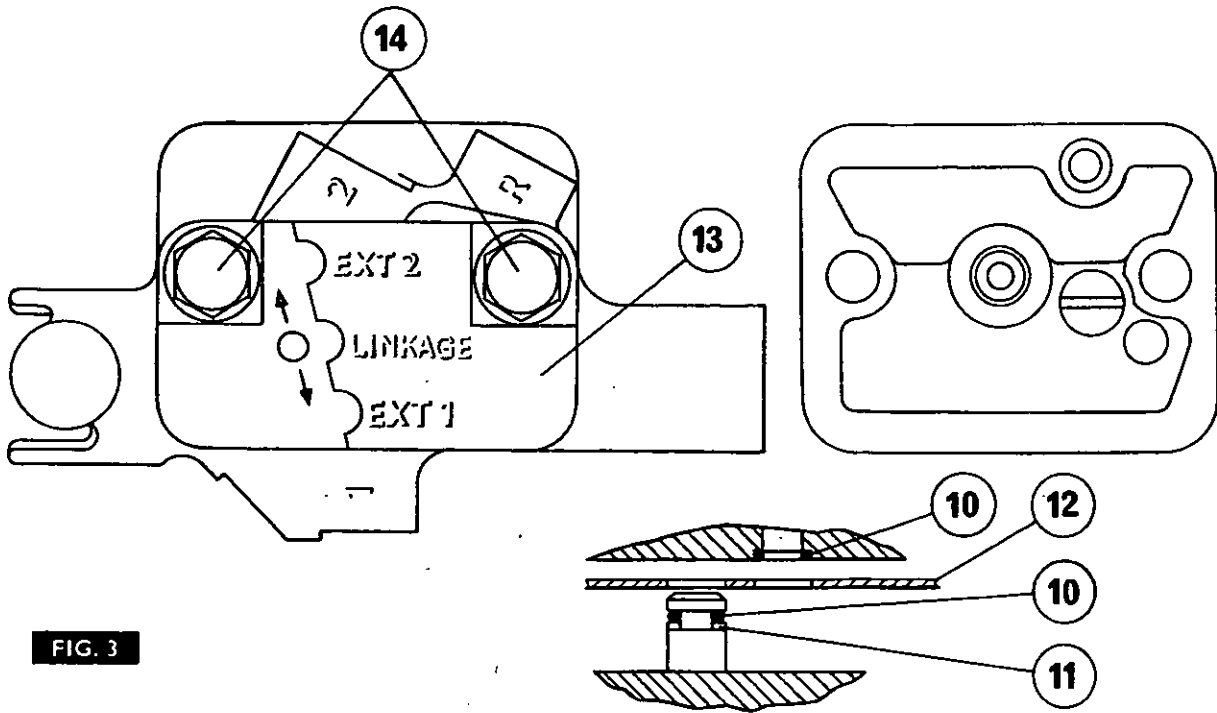

FIG. 3
3. Fig. 3. Remove the old 'O' ring and back-up washer (10 and 11 respectively), from the standpipe.
4. Fit a new 'O' ring (10) and back-up washer (11) to the standpipe.
5. Clean the bottom face of the selector valve, then fit an 'O' ring (10) to the shallow recess in the bottom face of the selector valve.
6. Place the selector valve gasket (12) in position, making sure that all of the holes are clear, then locate the selector valve on the standpipe.
7. Fit the instruction plate (13), then fit the two special  $\frac{7}{8}$  UNC x 73 mm ( $2\frac{7}{8}$  in.) bolts (14), with a flat washer and a lockwasher for each.